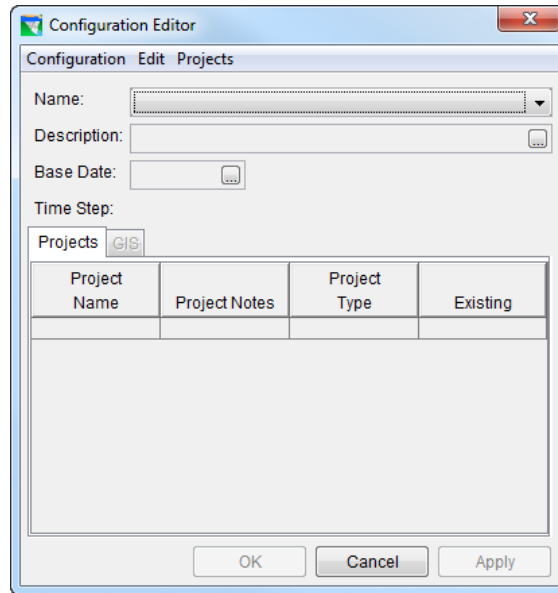

Figure 11: Configuration Editor
- **Create the Configuration.** From the **Watershed** menu, select **Configuration Editor**. From the **Configuration** menu in the Configuration Editor that has opened (Figure 11), select **New**. In the new configuration window, enter a **Name** and **Description** for the Configuration and select a time step from the **Time Step** list and press **OK**. Then, click **OK** in the Configuration Editor.